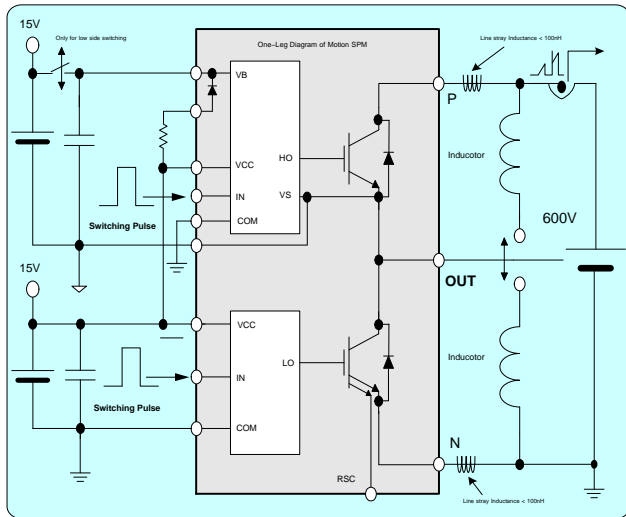
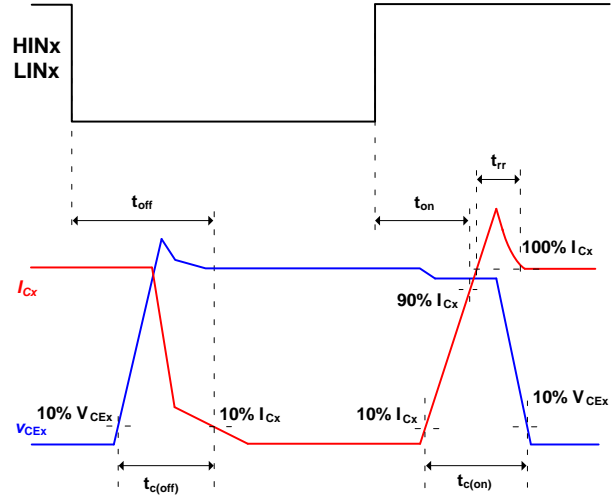

Figure 5. Switching Evaluation Circuit
Figure 6. Switching Time Definition
4. t_{ON} and t_{OFF} include the propagation delay of the internal drive IC. $t_{C(ON)}$ and $t_{C(OFF)}$ are the switching times of the IGBT itself under the given gate driving condition internally. For the detailed information, see Figure 5 and Figure 6.